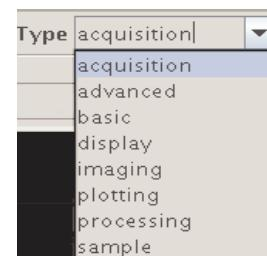

Figure 10. Type Menu
4. Select a choice from the **Type** menu, Figure 10, to set the page type.